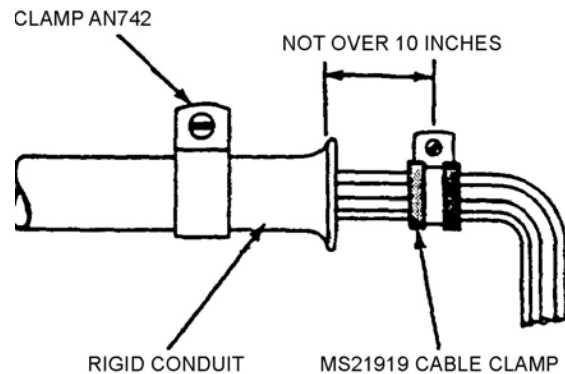

Figure 10. Support for Wire at Conduit End
21. SUPPORTING WIRES AT END OF RIGID CONDUIT. MS21919 cable clamp should be available to support wires at each end of conduit. Place the cable clamp in a direct line with the conduit end to prevent chafing of wires at edge of conduit. The cable clamp should be as close to end of conduit as practicable, but never more than 10 inches away (Figure 10).